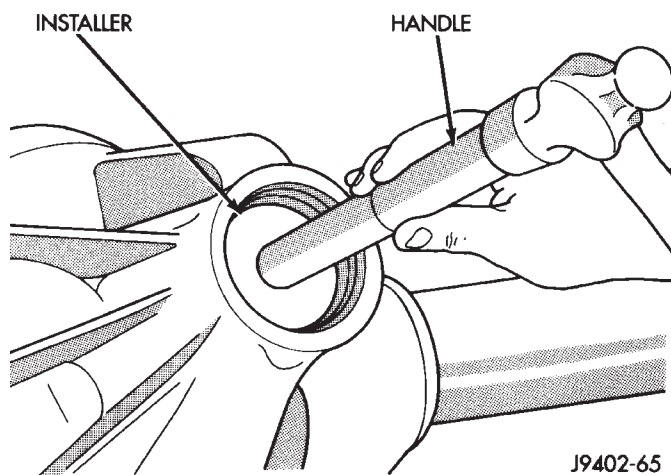

Fig. 32 Pinion Front Bearing Cup Installation
- (2) Install the pinion front bearing cup with Installer D-129 and Handle C-4171 (Fig. 32).